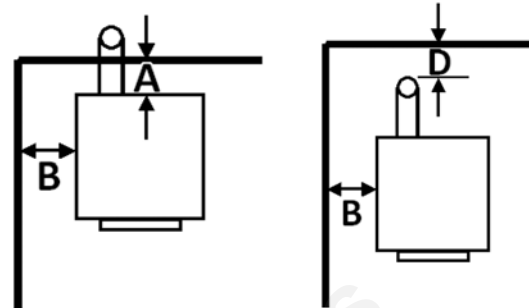

FIGURE 1
The BIO-45 MF has been tested and listed for installation in residential and mobile home. (refer figure 1 & 2)
1. Position stove, adhering to clearances shown in Figures 1 & 2.